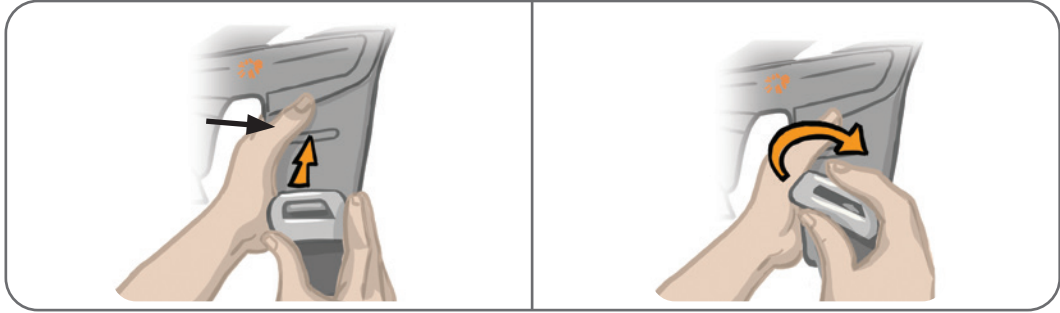

Figure 8-5: Removing the Thigh Straps
1. Push the attached thigh strap buckle toward the Thigh Cuff while making a twisting motion. See Figure 8-5.